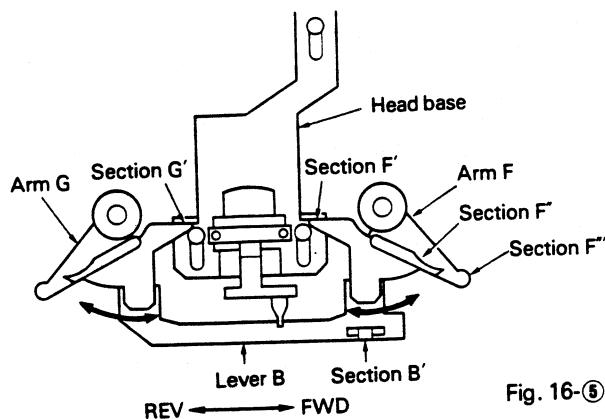
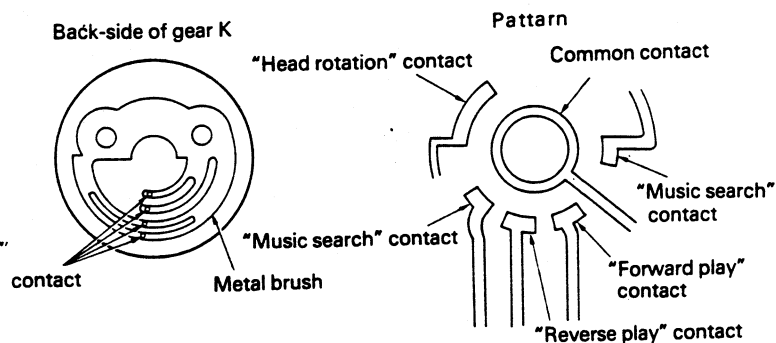
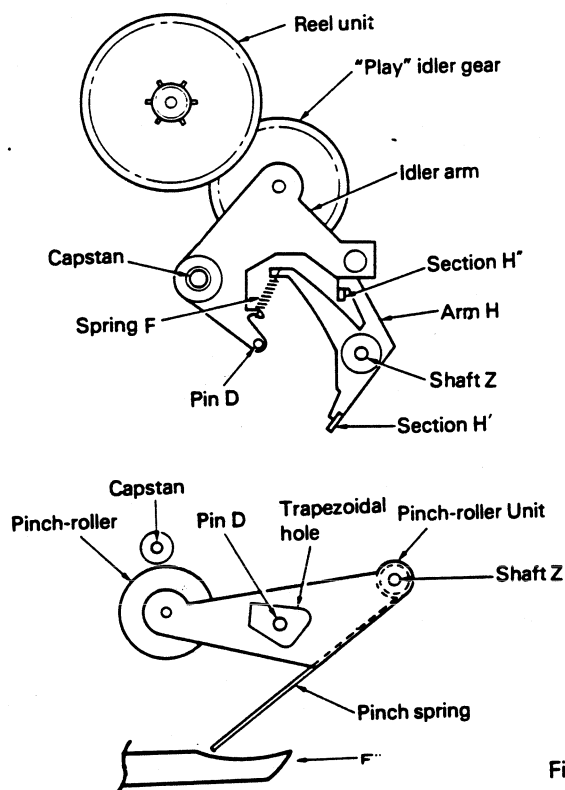

Fig. 16-5
Fig. 16-6
Fig. 17
3. Pin "B" engages with the arm "E" oval opening and rotates arm "E". The arm "E" sector gear is engaged with pin "C" and this turns the head. The head rotation pattern (Fig. 16-6) performs this operation inside a certain angle.
5. After the head base goes beyond the MS pattern (Fig. 16-6) position, the arm "F", "F" part pushes the pinch roller unit pinch spring and presses the pinch roller down onto the capstan. (Fig. 17)
6. Simultaneously, the arm "F", "F" unit pushes the arm "H", "H" part. The "H" part lock releases when pushed, and the play idler gear comes into contact with the reel unit. Play operation begins because of this. (Fig. 16-5, Fig. 17)